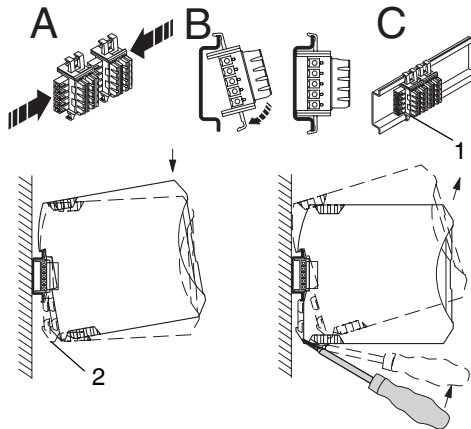

Figure 4 Mounting and removal
- When using the DIN rail connector, first place it into the DIN rail (see A – C, Figure 4). It is used to bridge the power supply.